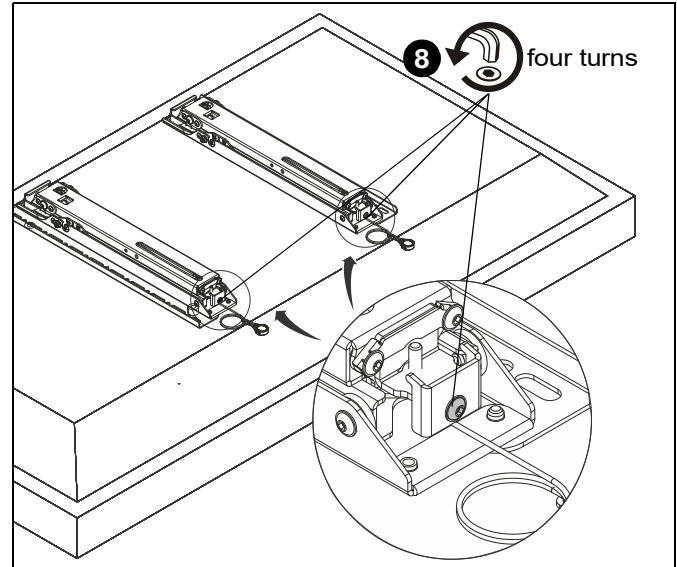

Figure 25
- Loosen two button head cap screws at bottom of each interface bracket (A and B) at least four turns. (See Figure 25)